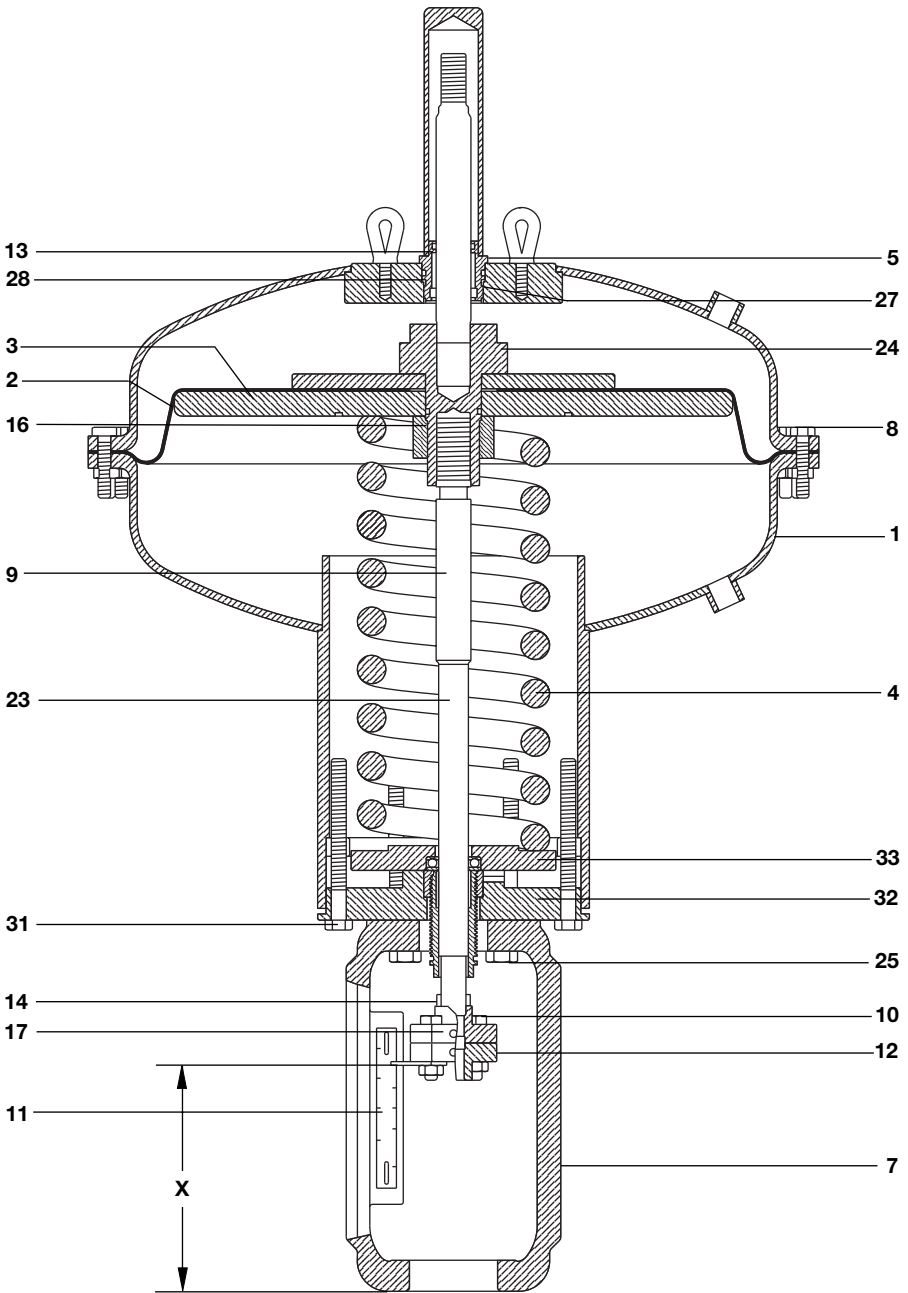

Fig. 12 PN2700 series
5.6 PN2700 series (Refer to Figure 12):